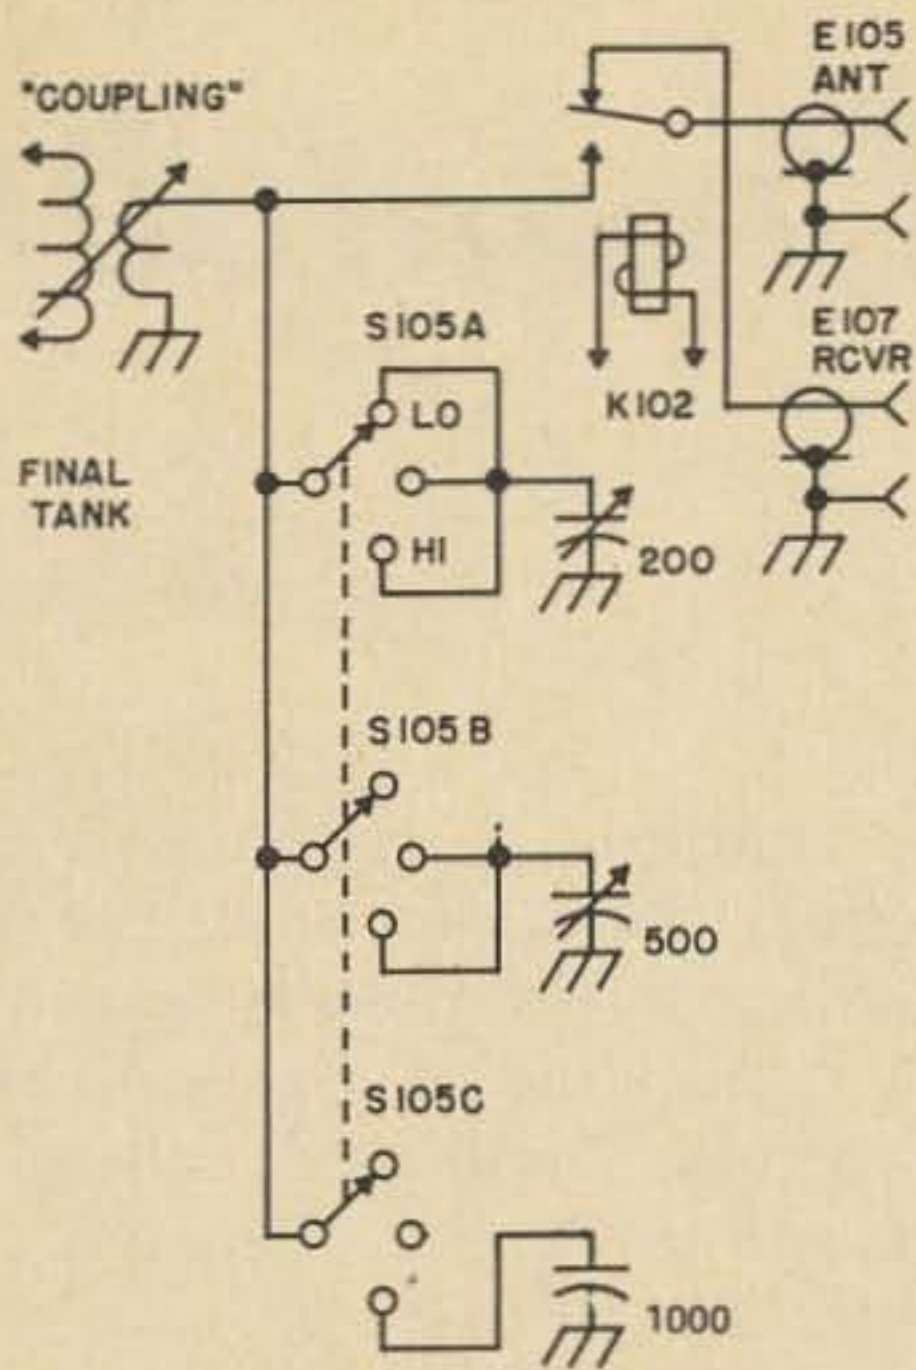

Fig. 4. TCS output modification.
9. Remove capacitor C₁₂₁ and the ceramic stand-off on which it is mounted. In place of this, mount a similar type capacitor with a value of 1000 mmf (i.e. Centralab 858S-1000). This capacitor mounts with one end grounded directly on the transmitter frame. Refer to Fig. 4 for later connection of the other end of the new C₁₂₁.
14. Refer, now, to Fig. 4 and make all connections at S_{105} .
Essentially, the requirement which must be satisfied is to make the link-output appear as 50 ohms reactance to the load at the frequency in use. The rotatable link does not satisfy this condition as designed, so it is necessary to include a circuit variable which will. Obviously, another approach to the problem would be to remove the link coil, calculate the proper inductance to provide 50 ohms reactance and re-wire the link. However, the removal of this coil seemed to be considerably more of a mechanical problem than the construction of the circuit of Fig. 4. In addition, this method offers much more flexibility.